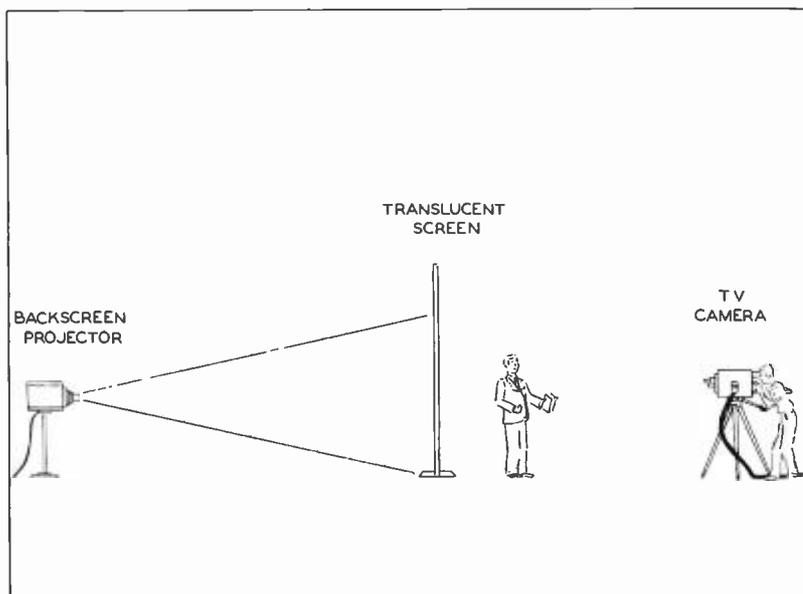

FIG. 20 (above). Moving scenery may be simulated by means of back-screen projection.
5. *Effects Lighting*—An important part of the interest in a television performance is maintained by the special lighting effects which are introduced to simulate realistic scenes. This is particularly true in the case of firelight, cloud effects, and window light created by equipment previously described. More recently, a technique was borrowed from the motion picture studios in simulating backgrounds and moving scenery as from a train window, the back of a car, etc., by using rear screen projection. Fig. 20 indicates how this is done. Care must be exercised in relation to perspective; distance between the live subject and the screen to avoid unwanted shadows; and the amount of front light to avoid washing out the projected picture. If motion pictures are used, the problem of synchronizing the frame frequency of the projector to the television camera must also be overcome. Fortunately, new equipment has been built which has satisfactorily solved this difficulty. It is obvious that outdoor settings can be quickly and economically reproduced. When stills can be used, the cost of backgrounds has also been sharply reduced and the variety of settings increased in proportion to the number of slides available.